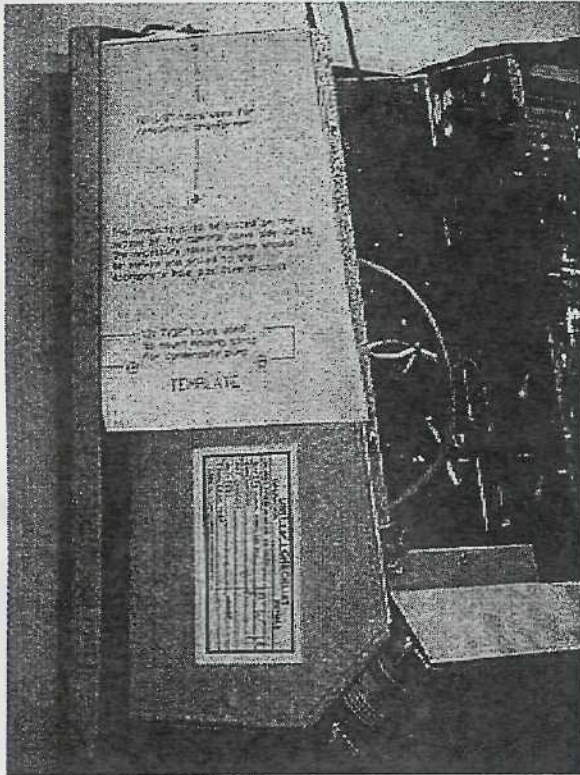

Fig. 9- Proper Use Of Template#1 For Mounting Pump Unit To Panel.
10. Use the template on Page 7 to mark hole locations for mounting the Pump Unit to the Panel. [FIG. 9]